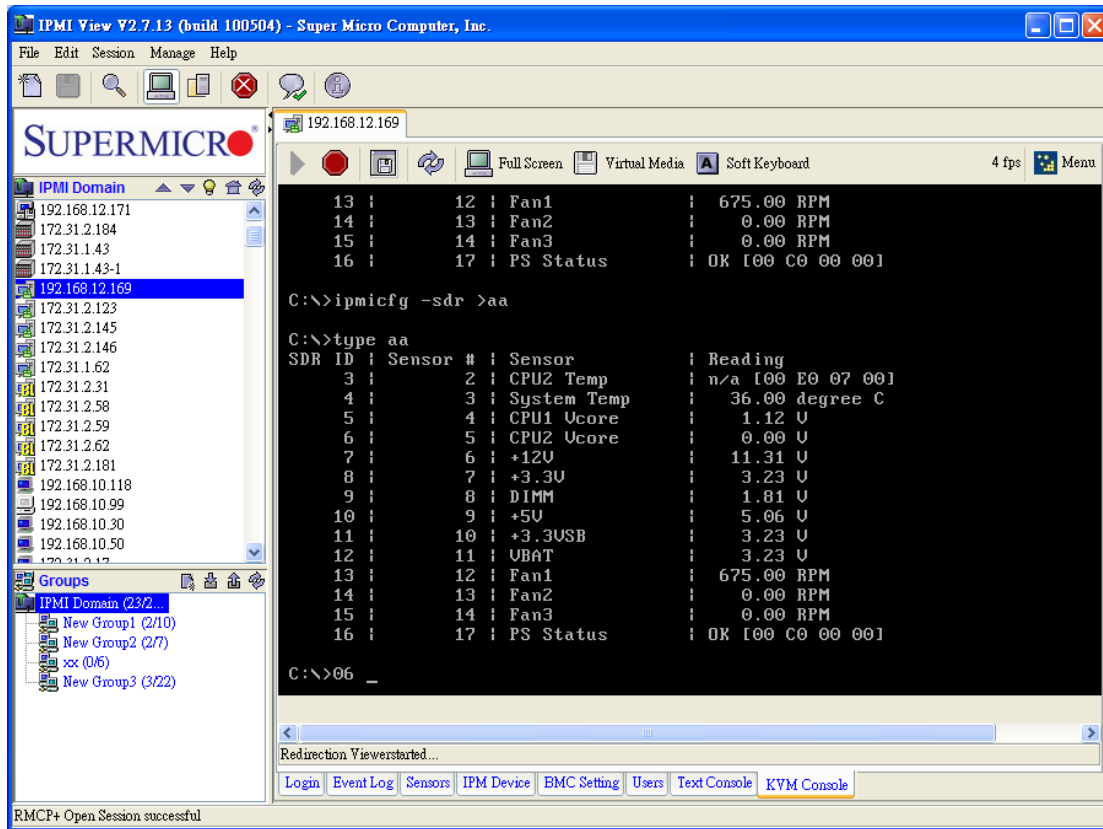

Figure B-1
SIM(W) KVM Console allows the user to perform console redirection via KVM (Keyboard/Video/Mouse) support as shown in Figure B-1.